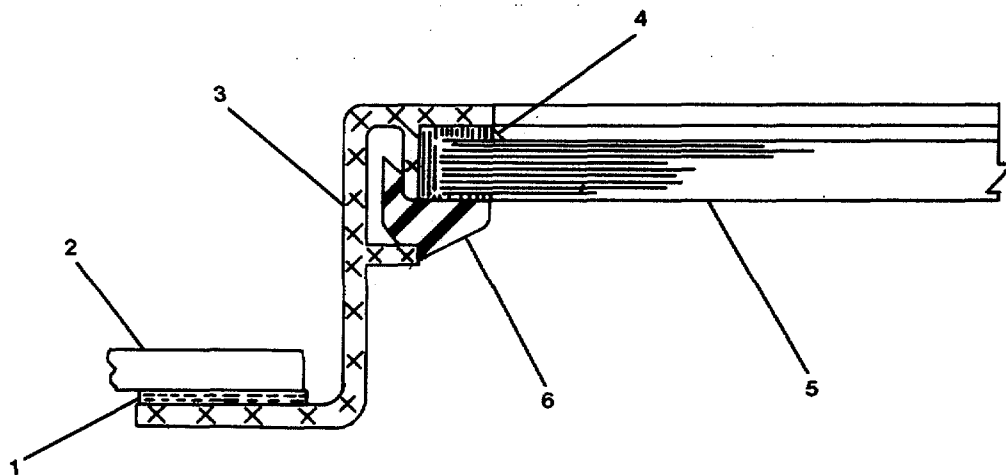

FIGURE 3-184. Repair Fixed-Window, Single Pane.
- a. Clean off old adhesive sealant (1, Figure 3-184) and sealing tape (2) from around bulkhead opening.
- b. Remove glazing gasket (6) from window frame (3).
- c. Carefully remove (heat treated) window glass (5) from window frame (3).